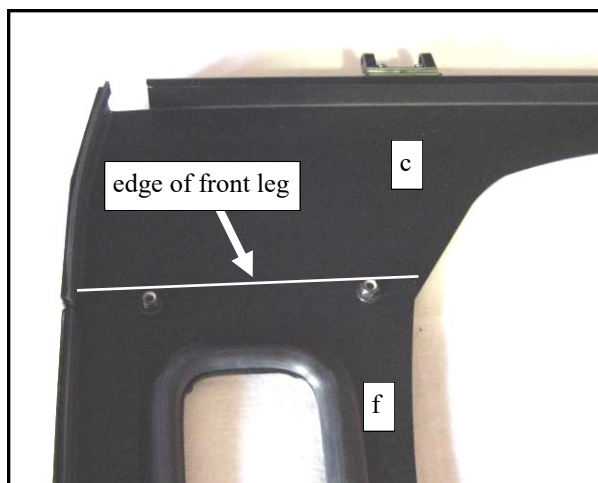

Fig. 7.1 (cowl/front left leg assembly)
7.1 Per fig. 7.1, pre-assemble the cowl and the left front leg oriented so the 90 degree bent flanges on the left side of the photo are both up. The white line on the sheet metal in the photo represents the edge of the front leg (piece "f"). In this view, the front leg is to be on top of the cowl (piece "c"). Use the following hardware: two 5/16 x 3/4" long hex flange bolts, two plastic washers and two flange locknuts. Locknuts to be inboard (up in this view). Tighten bolts.